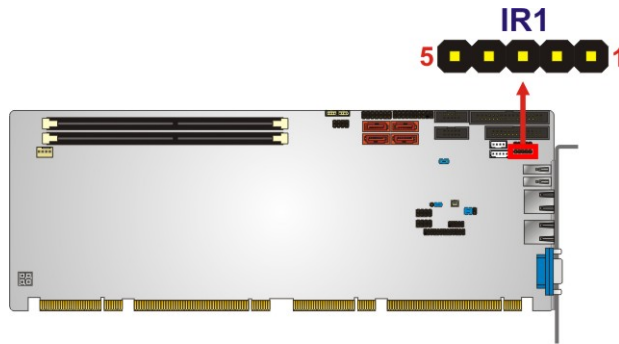

Figure 3-12: Infrared Connector Location
**CN Location:** See **Figure 3-12**